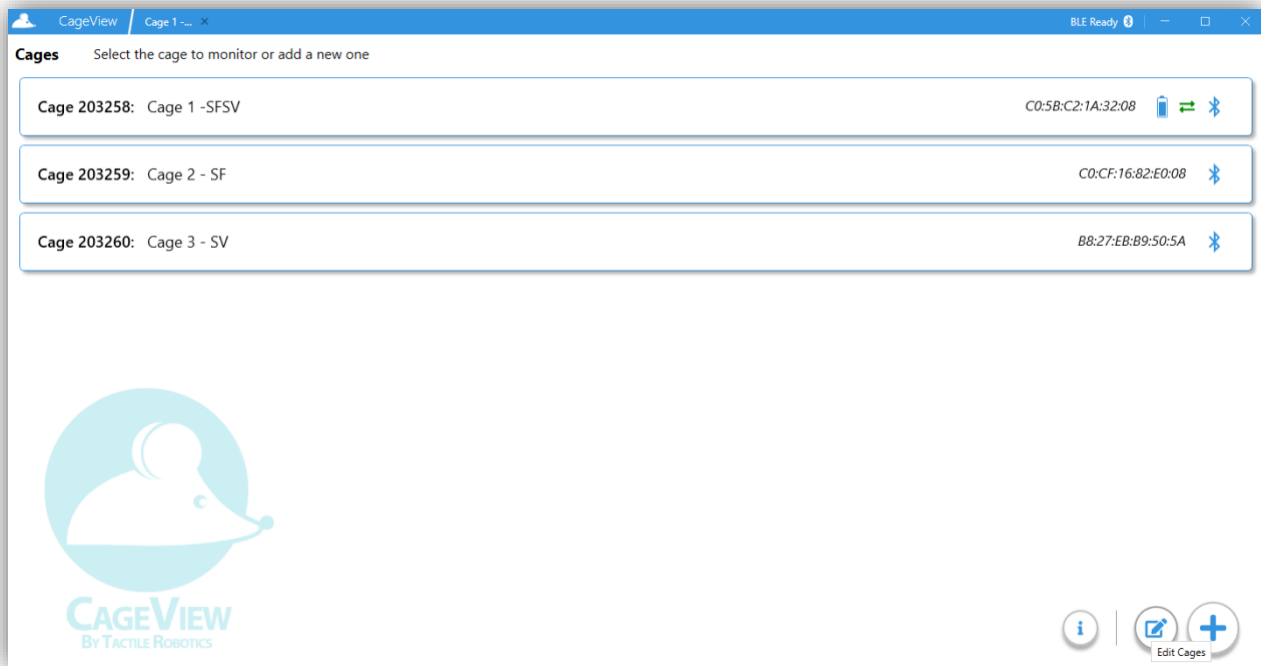

Figure 29. Editing CageViews
5.3.8. The App's main window is shown in **Figure 29**. Click the "**Edit Cages**" button presented by a pencil icon to turn on the editing mode.